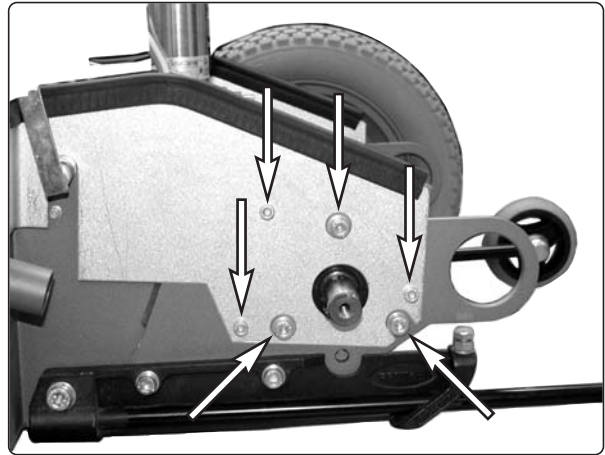

Fig.27. Drive motor and cover plate fixings.
9. Remove the three bolts holding the cover plate, and remove the cover plate. Remove the three bolts holding the motor, see fig 27.